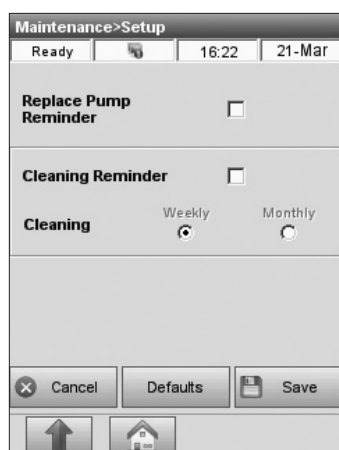

Fig. 7-19 Replace Pump
3. In the **<Setup>** screen (Fig. 7-19), you can select the option **<Replace Pump Reminder>**.